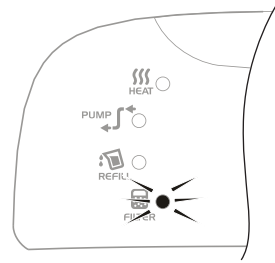

Fig.8
1. A filter checking system is built into this appliance. It can detect the working time for the filter. Once the filter is invalid, the filter replacement indicator light on control panel will continuously blink to indicate that the filter needs to be replaced (Fig.8).